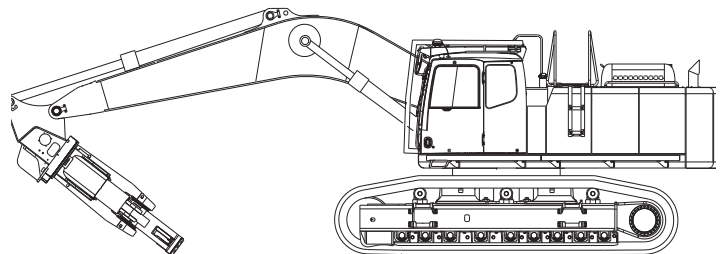

FIGURE 3-5
6. Have all personnel stand clear and instruct the operator to slowly lift the attachment into a position where there will be enough clearance to pin the excavator cylinder to the cylinder connection on the mounting bracket (figure 3-5).